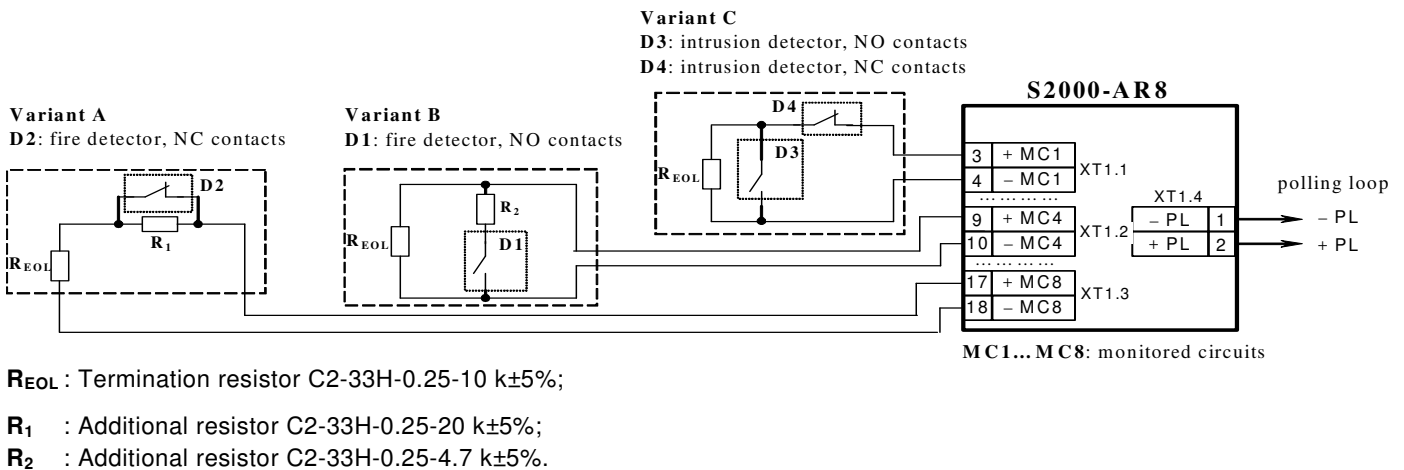

Figure 2.2.2. External Connection Diagram
1.4.1 S2000-AR8 features eight monitored circuits (or supervised circuits, or device loops) each providing connection of non-addressable fire and intrusion detectors, control appliances, and auxiliary devices with dry contact outputs. Both normally closed detectors and normally open detectors are connectable. The schematic for connecting detectors is shown in Figure 2.2.2. Triggering of the connected non-addressable detector results in a change in the monitoring circuit resistance which is detected via the ADC. The relationship between resistance of a monitored circuit and relevant states and ADC values is represented in Table 3.4.1.
Figure 2.2.2 shows a standard schematic for connecting S2000-AR8 with the polling loop controller and standard variants for connecting non-addressable detectors to the module.